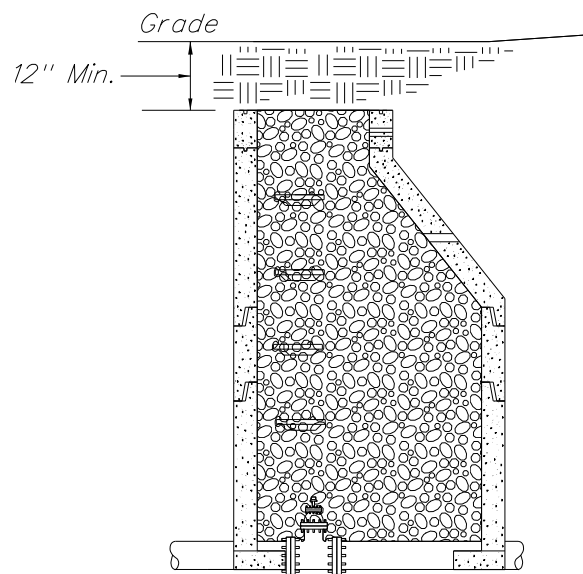

Fig. 1
- The remaining vault or pit shall be filled with sand or flowable fill. See Fig. 1.